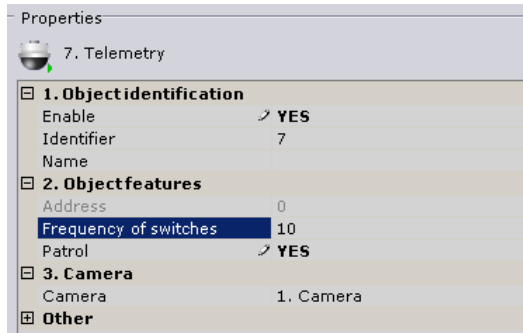

Fig. 6.3—16 Setting switching frequency
5. Set the frequency of switching between presets (see Fig. 6.3—16).